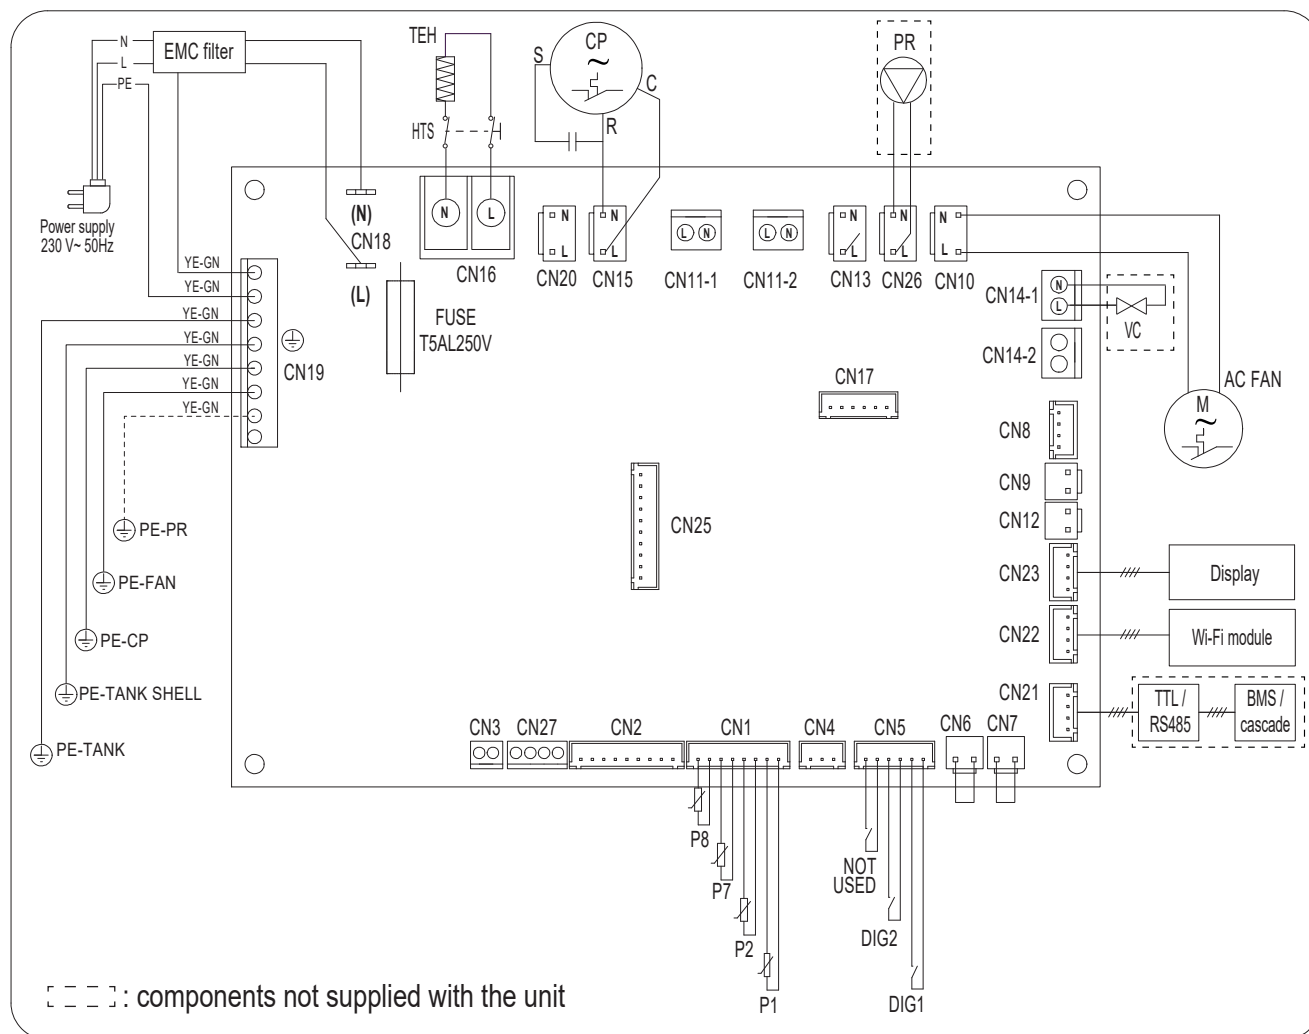

fig. 70 - Wiring diagram of the equipment
- 1) The recirculation pump (part.16) must be connected to terminal CN26 of the master motherboard (ref. "fig. 70 - Wiring diagram of the equipment" a pagina 180).
- 2) Fit a normally open solenoid valve (part. 19) for each unit in the cascade. The valve must be connected to terminal CN14-1 (ref. "fig. 70 - Wiring diagram of the equipment" a pagina 1804) of the mother board of each unit.
- 2) Fit a normally open solenoid valve (part. 19) for each unit in the cascade. The valve must be connected to terminal CN14-1 (ref. "fig. 70 - Wiring diagram of the equipment" a pagina 180) of the mother board of each unit.